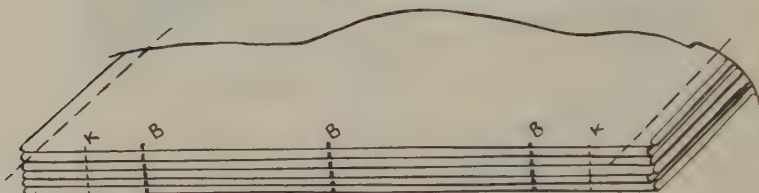

FIG. 233—MARKING DIAGRAM FOR SAWING-OUT BACK OF SECTIONS FOR SEWING
4. *Mark-up* the back of book for hand sewing. As this is a small book $6\frac{1}{4}$ " long (after trimming) three bands and two kettle-stitches each $\frac{1}{2}$ " away from top and bottom stitches and ends of book will be sufficient. (Fig. 233.)